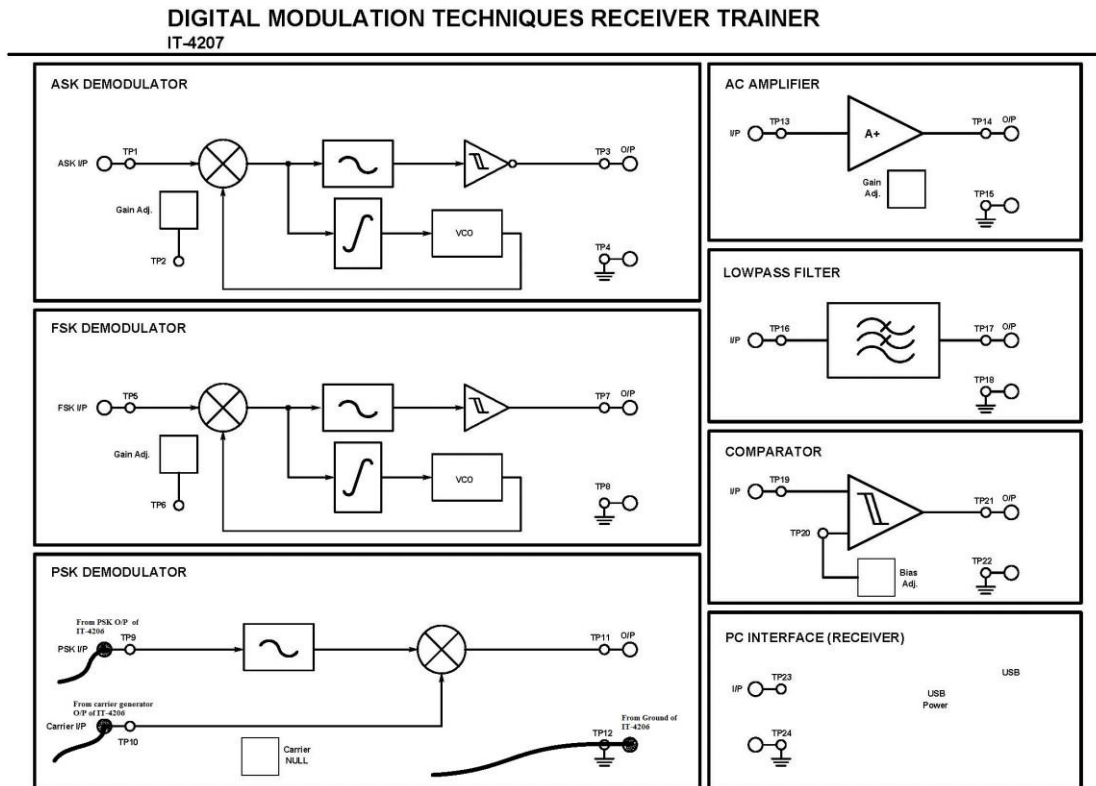

Fig. B.1: Experimental Setup
1. Make connections as shown in Fig. B.1 using 2mm patch cords.